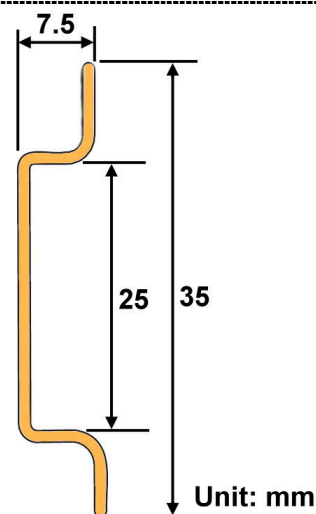

Figure 2.5.3
2. Please use the suitable DIN-Rail to install, please refer to the dimensions of the DIN-Rail. (Figure 2.5.3)